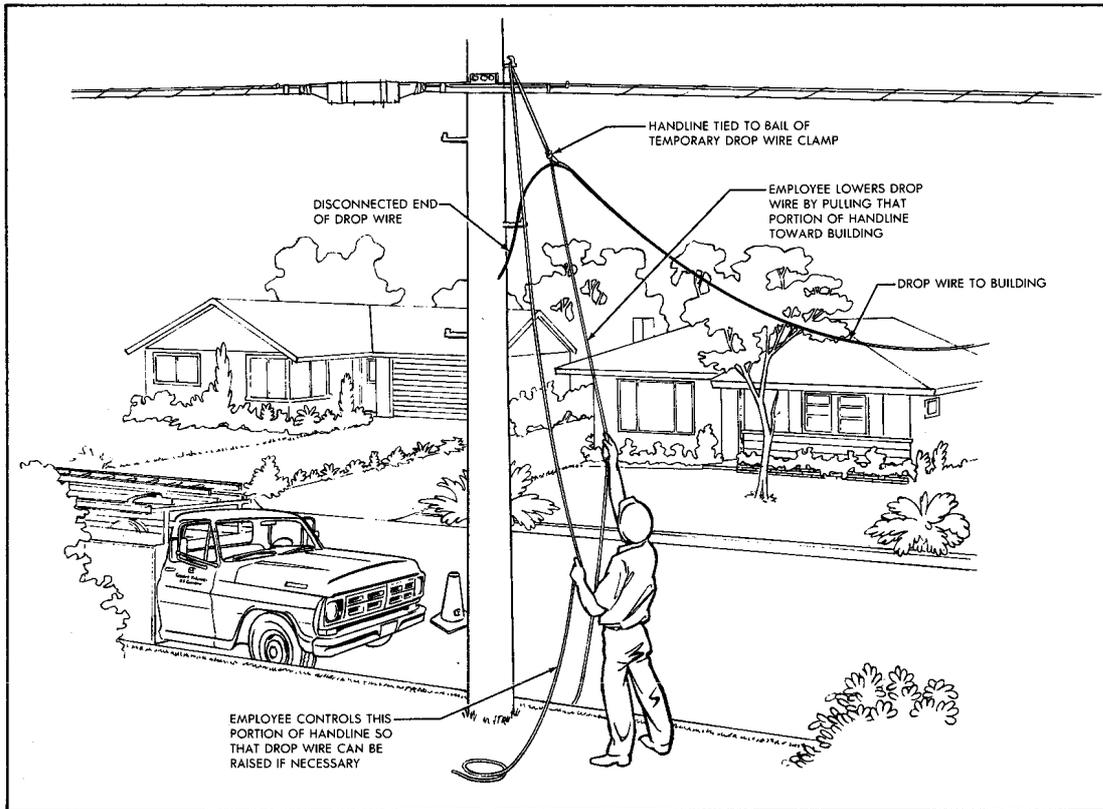

FIGURE 2. Lowering Drop Wire
g. Return to the ground. Untie the handline from the base of the pole and, when no vehicles or pedestrians are approaching, lower the drop wire to the ground by pulling that portion of the handline toward the building. The portion of the handline on the opposite side of the strand should pass through the employee's hand, as shown in Figure 2, so that the handline can be pulled in either direction to work the drop wire among the branches of a tree, or to raise the wire quickly if necessary.